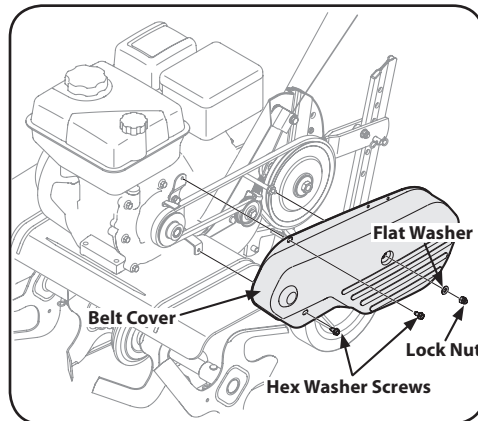

Figure 5-2
2. Remove the belt cover from the left side of the tiller by removing the two hex washer screws and the lock nut and washer. See Figure 5-2.